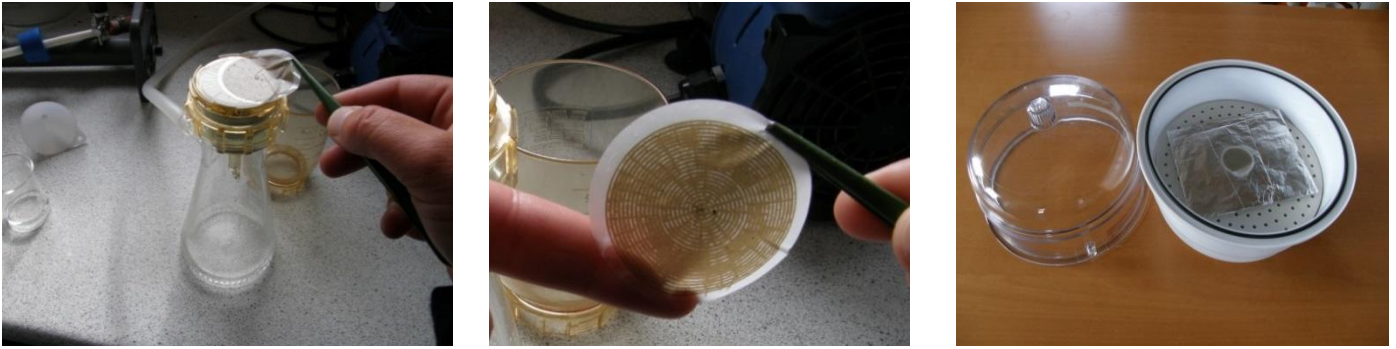

Fig 8.4 Moving filter with sediment from filter assembly to desiccator.
11. Carefully, remove the filter cup and use the tweezers to move the filter with sediment to a small tray of tin foil and place it in the desiccator (see Fig 8.4). Close with the lid and leave the filter to dry for about 24 hours.